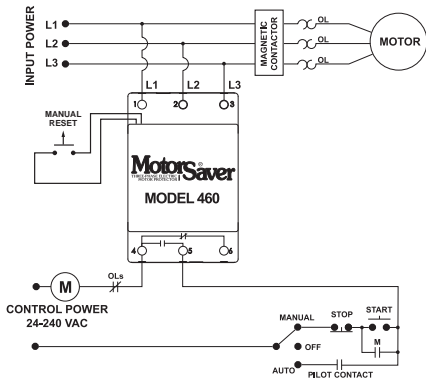
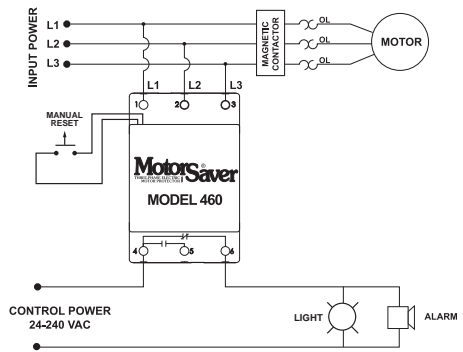

Figure No. 1: Motor Control Wiring Diagram
Figure No. 2: Alarm Wiring Diagram
2. Connect L1, L2 and L3 on the MotorSaver's terminal strip to the **LINE SIDE** of the magnetic contactor. (See Figure No. 1).
3. Connect the output relay to the circuitry to be controlled. Connect the normally open contact in series with the magnetic coil of the motor starter as shown in Figure No. 1 for motor control. Connect normally closed contact in control circuit as shown in Figure No. 2 for alarm operation.